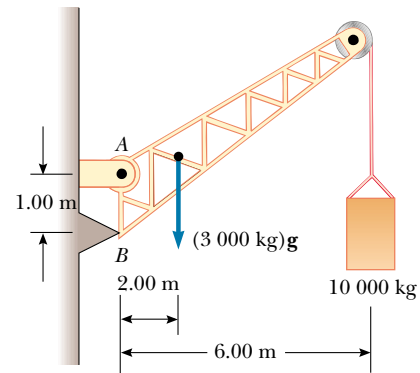

Figure P12.46
46. A crane of mass 3 000 kg supports a load of 10 000 kg as illustrated in Figure P12.46. The crane is pivoted with a frictionless pin at A and rests against a smooth support at B. Find the reaction forces at A and B.